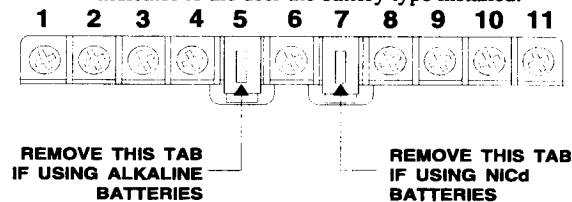

Figure 4. Selecting Tab to Indicate Battery Type
- 3) Remove the appropriate plastic tab to expose the alkaline or NiCd screw terminal (see Figure 4).